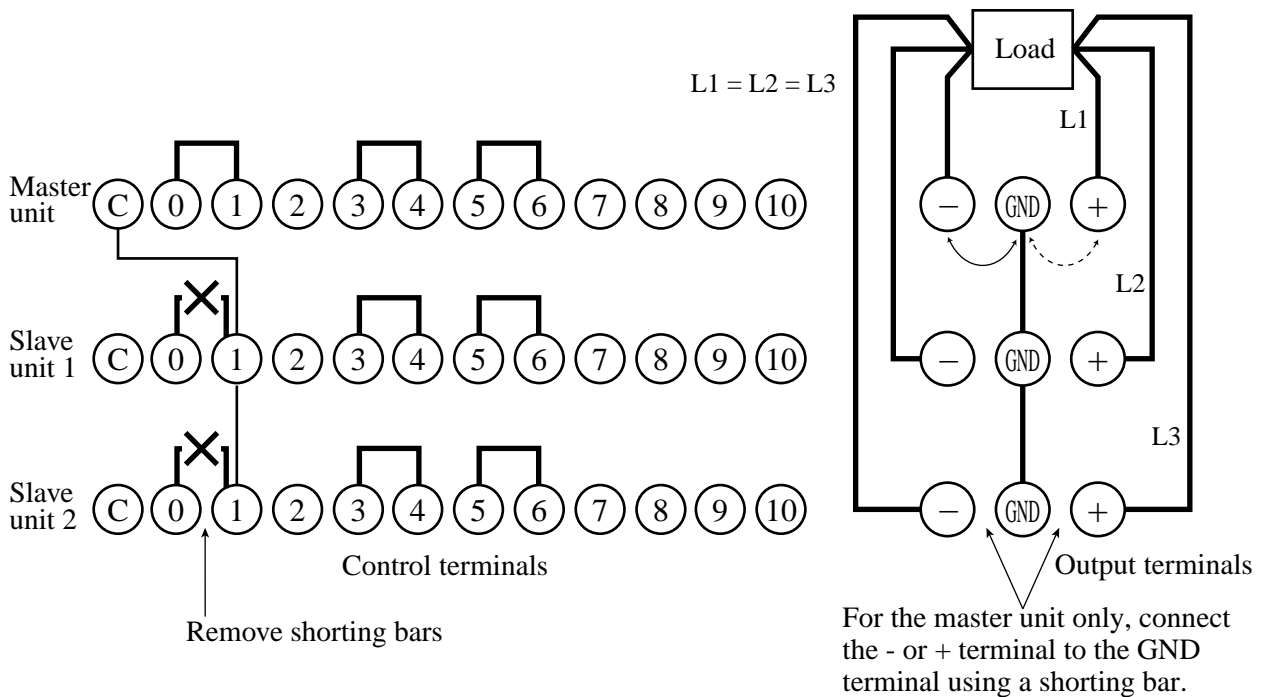

Fig. 4-16 Connection for master-slave-control parallel operation
7. Connect the master and slave units and a load, as shown in Fig. 4-16.